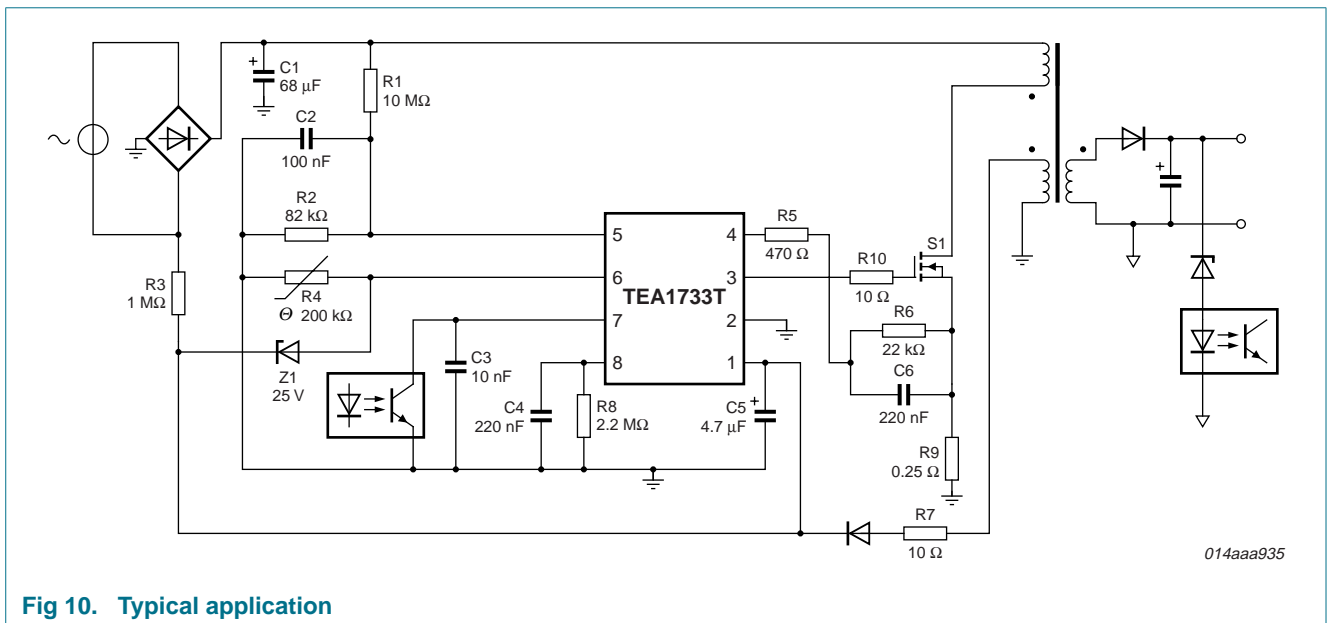

Fig 10. Typical application
A power supply with the TEA1733(L) is a flyback converter operating in Continuous conduction mode. See Figure 10.